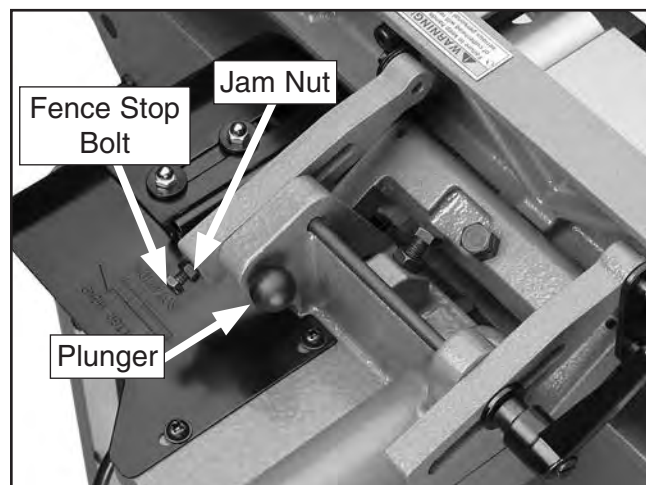

Figure 74. Plunger engaged.
3. Loosen the jam nut on the 90° fence stop bolt (see **Figure 74**).
1. Pull the plunger out (see **Figure 74** on **Page 41**).